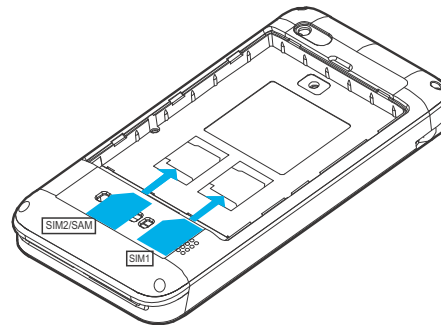

Figure 4 Inserting the SIM
- Slide the SIM/SAM cards as shown in Figure 4 and place the battery and battery cover.